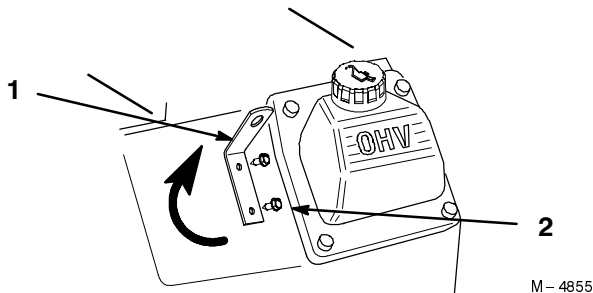

Figure 86
1. Locate on engine the lift hook in figure 86.